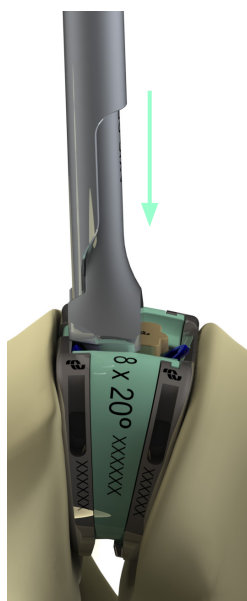

Fig. 56
- Deploy the Removal Tool by pushing down the assembly (Fig. 56).